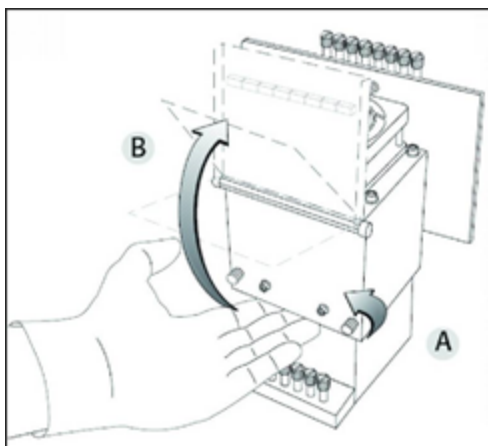

Figure 6-61 Opening the print-head compartment
- a. Open the print head compartment (see Figure 6-61 on page 6-46).